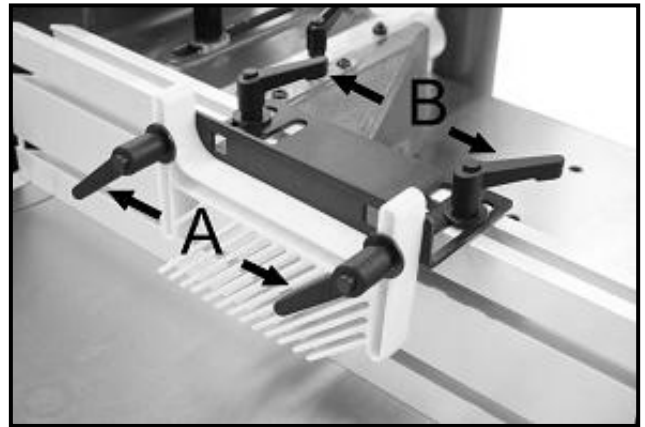

Figure-16 Installing the featherboard
**A.** Attach the featherboard to the bracket using the two lock levers. See figure-16.
**B.** Install the featherboard on the fence by sliding the nuts through the slot on the top edge of the fence and securing it by tightening the lock levers See figure-16.